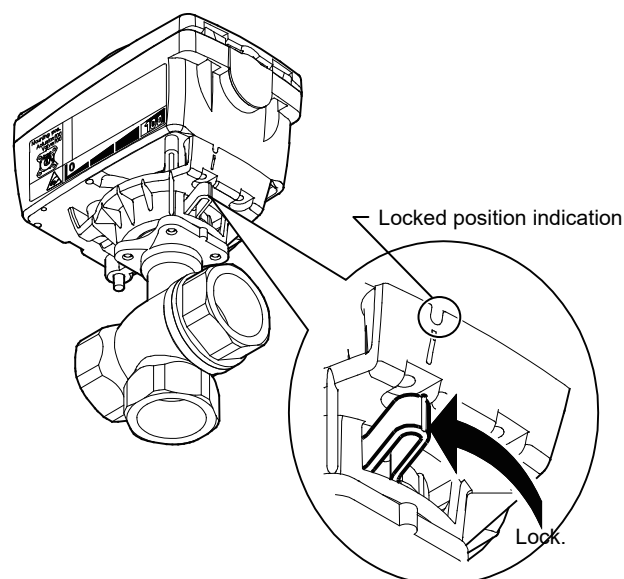

Figure 13. Locking the lock lever
- 5) Move the lock lever to left-end to lock. Locked position is indicated with the groove as shown in Fig. 13.